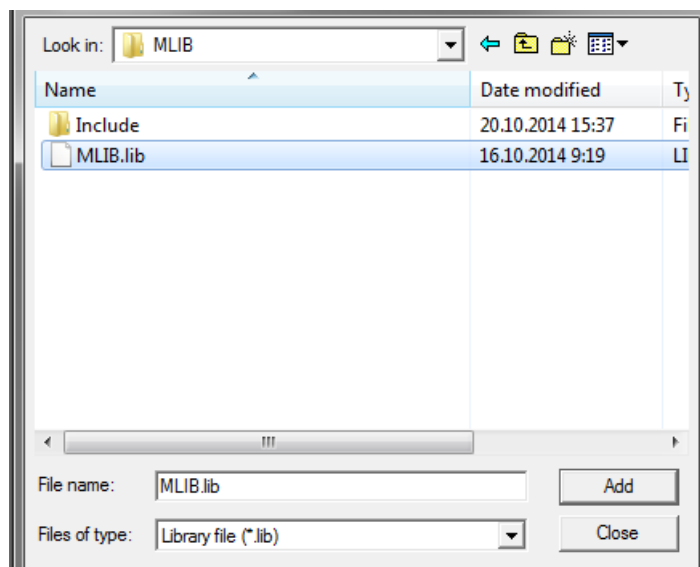

Figure 1-23. Adding .lib files dialog
5. Navigate to the parent folder C:\NXP\RTCESL\CM4F_RTCESL_4.3_KEIL\MLIB, and select the *mlib.lib* file. If the file does not appear, set the Files of type filter to Library file. Click Add. See Figure 1-23.